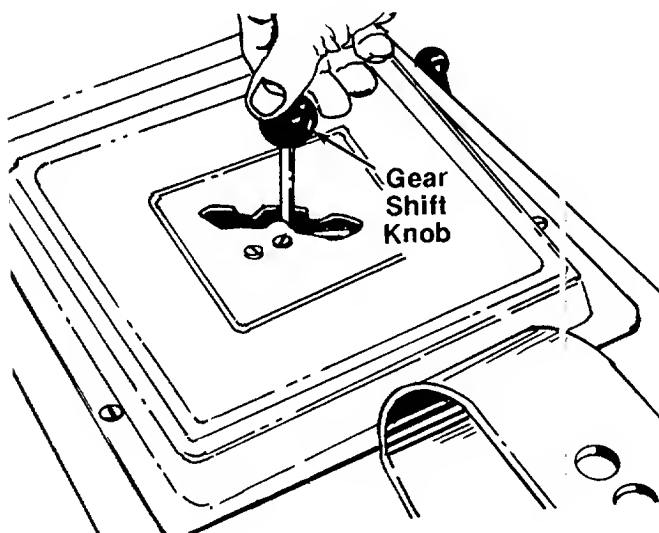

FIGURE 4.
1. Place gear shift lever in the "neutral" position. Unscrew the gear shift knob. See figure 4.